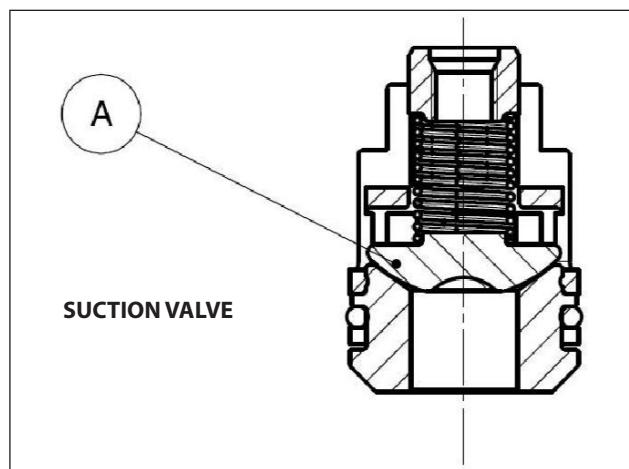
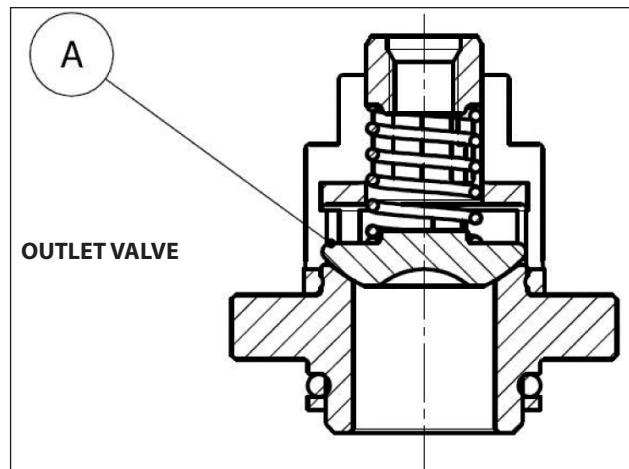

Fig. 26
Fig. 27
- 2. On the HF18 version, moreover, take care not to reverse the suction ball valves with the outlet valve "A" (Fig. 26, Fig. 27), exploded view pos. 46 as indicated in chapter 16 of the *Use and maintenance manual*.**